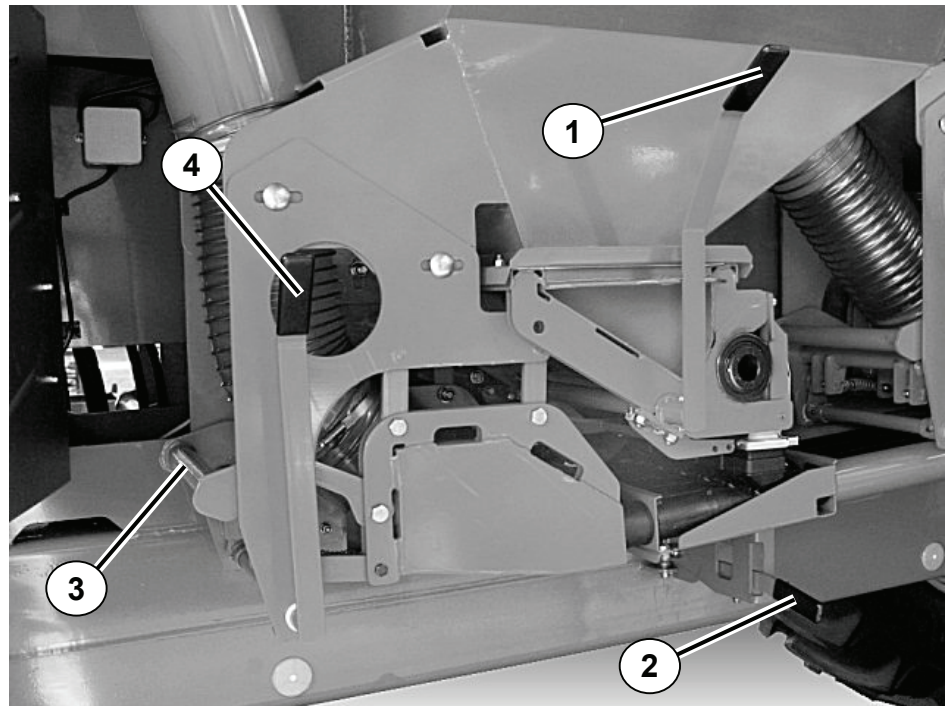

Fig. 36: Assemble the fertiliser spreader
1. Use the lever to fold up (Fig. 36: Pos. 1) the spreading tray.
3. Secure the air duct by pulling out the lever (Fig. 36: Pos. 2) for the rack.
4. Unlock the pressure chamber securing device (Fig. 36: Pos. 3).
5. Use the operating lever (Fig. 36: Pos. 4) to push the pressure chamber into the air duct.